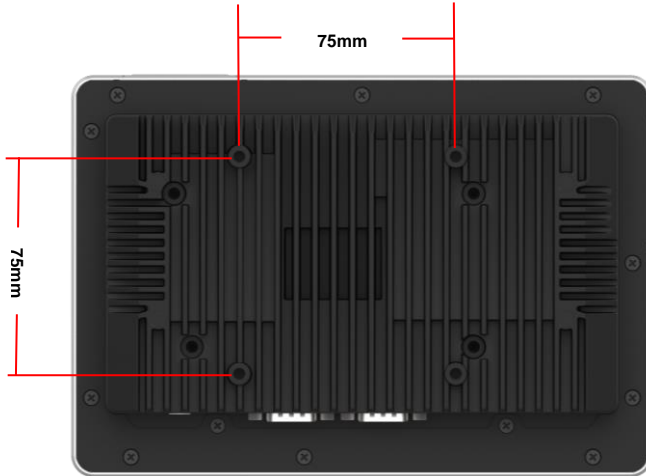

Figure 3-9: Arm Mounting Retention Screw Holes
Step 3: Align the retention screw holes on the mounting arm interface with those in the panel PC (**Figure 3-9**).